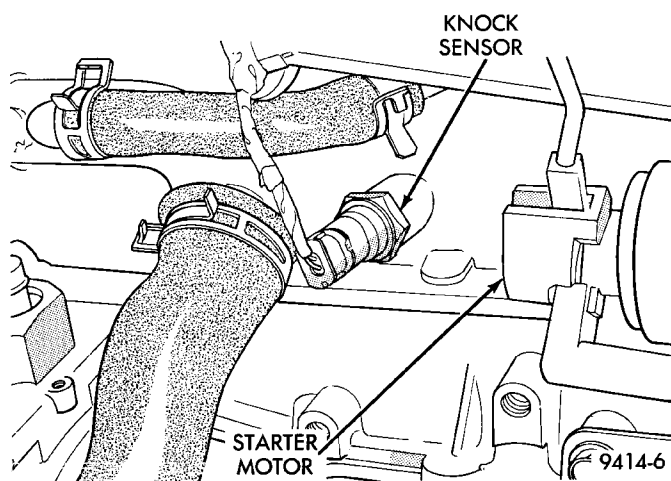

Fig. 64 Knock Sensor
(14) Check the electrical connection at the knock sensor (Fig. 64).